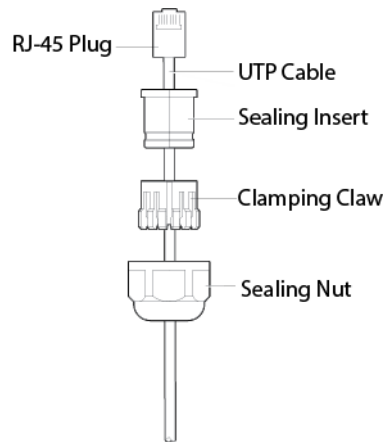

Figure 7. Applying the Sealing Parts to the LAN Cable
3. Pass the LAN cable through the sealing nut, and attach the sealing insert and clamping claw to the cable as shown in Figure 7 on page 29.